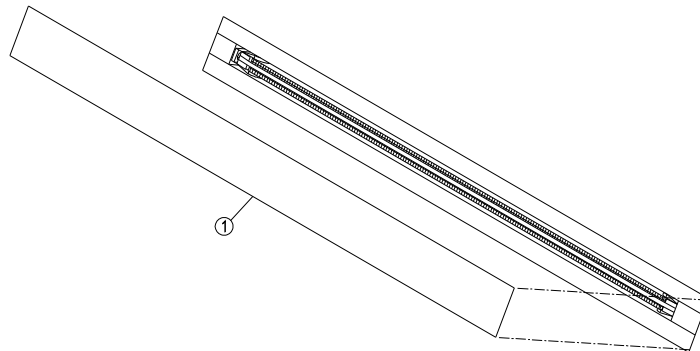

Fig. 7
Remove the plug from the mains supply. Burnt or worn PTFE can be easily replaced. (see fig.7) Remove the old upper PTFE (1). Clean the strips from old glue rests. Stick the new upper PTFE onto the strips of the sealer.